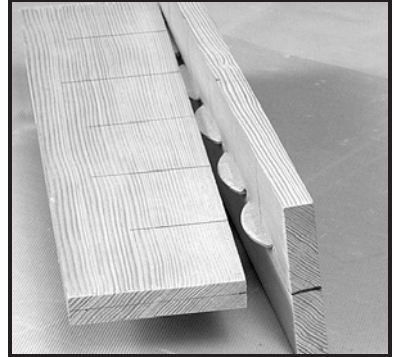

Fig. 26
**NOTE:** Assemble all joints and verify alignments before applying glue (see Fig. 26).